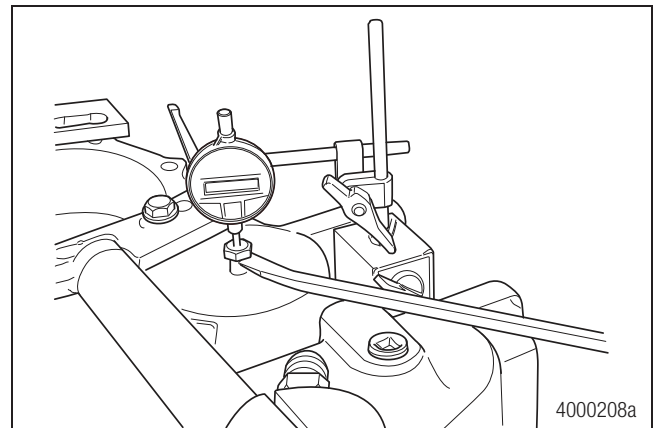

Figure 7.26
6. Set up the dial indicator to check the idler shaft bearing end play. Center the dial indicator on the bolt head. Zero the indicator. Figure 7.26.